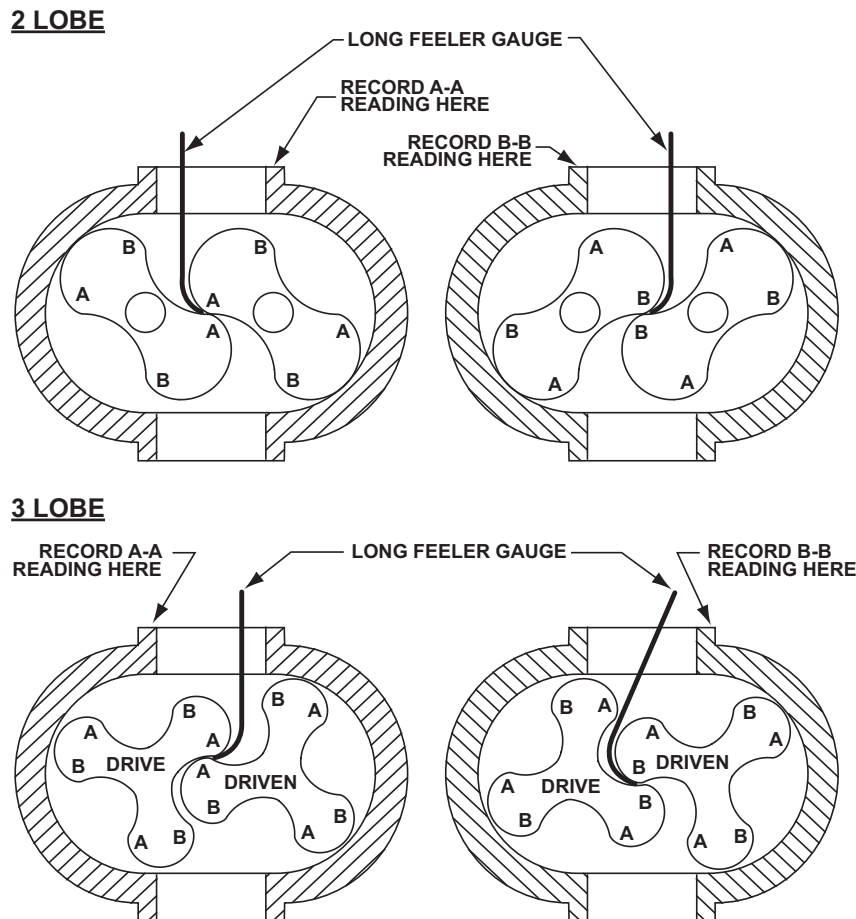

Figure 8-6 – Checking Rotor Interlobe Clearance
**EXAMPLE: See Figure 8-6,** check the clearance on a 6000 model at AA (right-hand reading) and BB (left-hand reading). If the AA reading is 0.017 in. (0.43 mm) and BB reading is 0.004 in. (0.10 mm), by removing 0.018 in. (0.46 mm) of shims, the readings should then read: